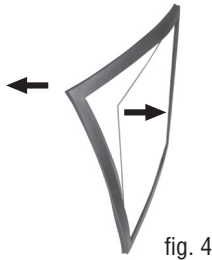

fig. 4
- **Replacing Front Lens Plate. (See fig. 4)**